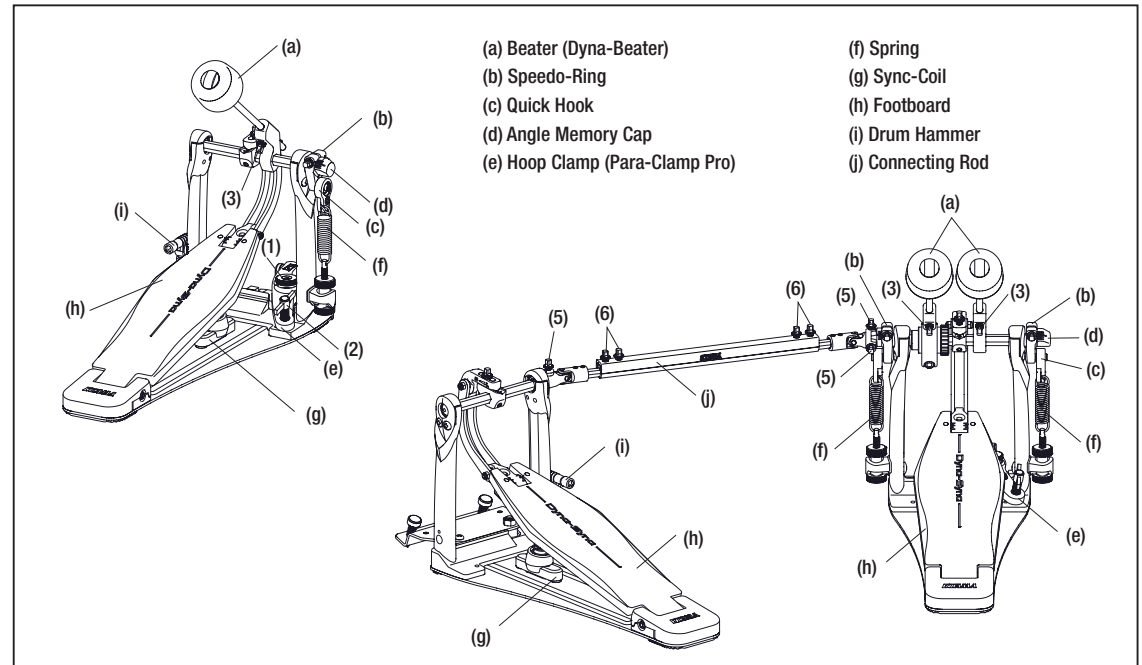

Fig.1
To adjust the length of the beater: loosen square headed bolt (3), move the beater head as necessary, and the retighten the bolt (Fig.1).